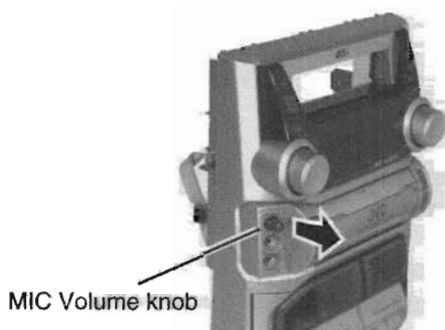

Fig.10
■ Removing the Microphone terminal board assembly (See Fig.10 and 11)